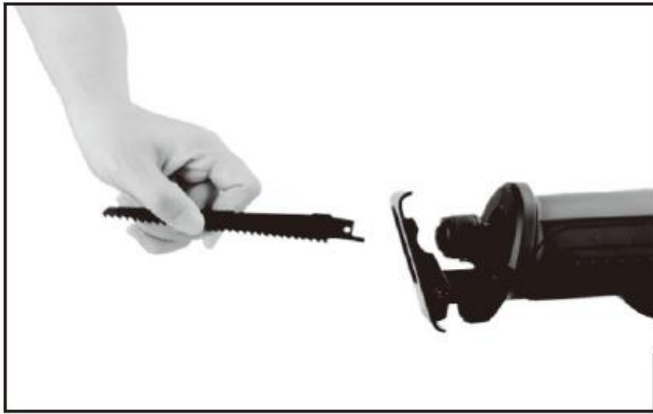

Fig. 2
- a) Turn the quick-release blade clamp (6) anticlockwise and insert the saw blade, then release the quick-release blade clamp(6). Make sure that the saw blade is securely fastened. (Fig. 2)